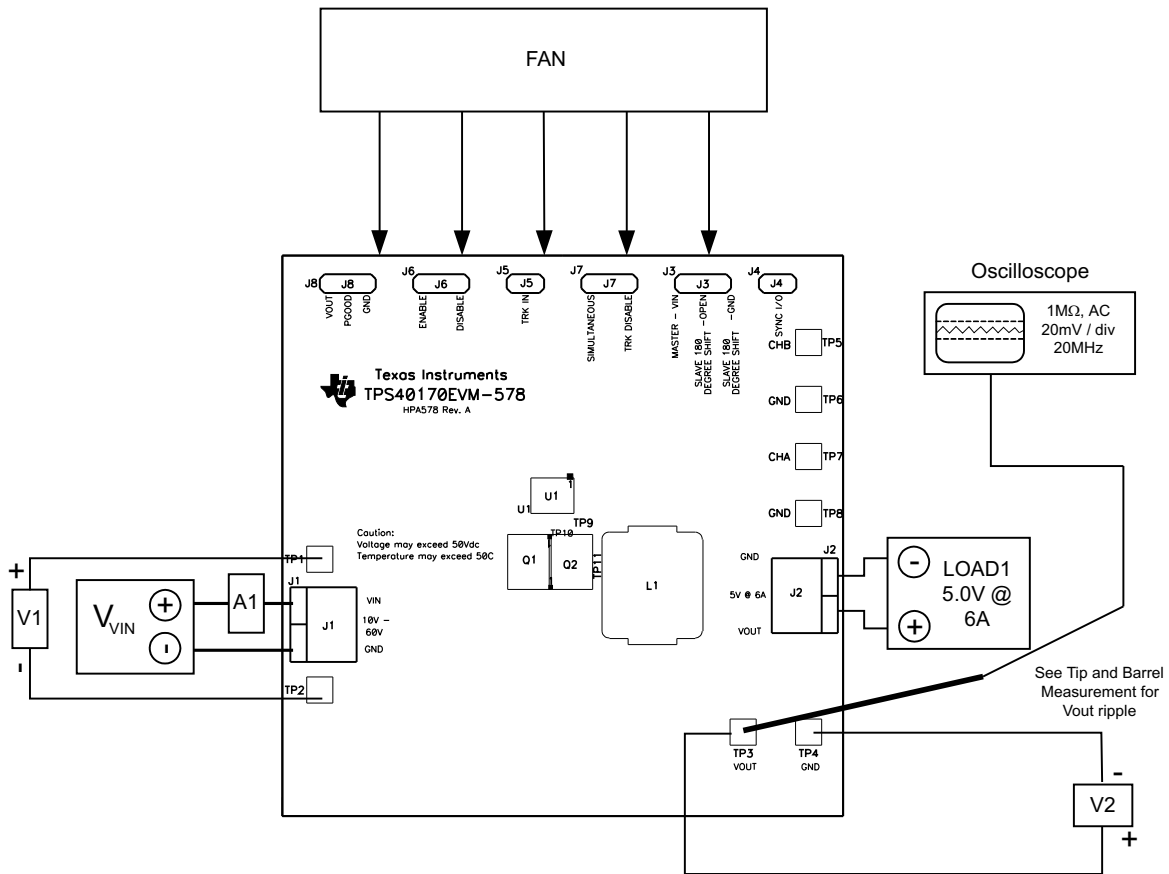

Figure 2. TPS40170EVM-578 Recommended Test Setup
Shown in Figure 2 is the basic test setup recommended to evaluate the TPS40170EVM-578. Note that although the return for J1 and JP2 are the same system ground, the connections must remain separate as shown in Figure 2.
2. Prior to connecting the dc input source, V_{IN} , it is advisable to limit the source current from V_{IN} to 3.5 A maximum. Ensure that VIN is initially set to 0 V and connected as shown in Figure 2.
3. Connect VIN to J1 as shown in Figure 2.
4. Connect the ammeter A1 between VIN and J1 as shown in Figure 2.
5. Connect the voltmeter V1 to TP1 and TP2 as shown in Figure 2.
6. Connect the voltmeter V2 to TP3 and TP4 as shown in Figure 2.
8. Place the fan as shown in Figure 2 and turn on, ensuring that air blows directly across the evaluation module.